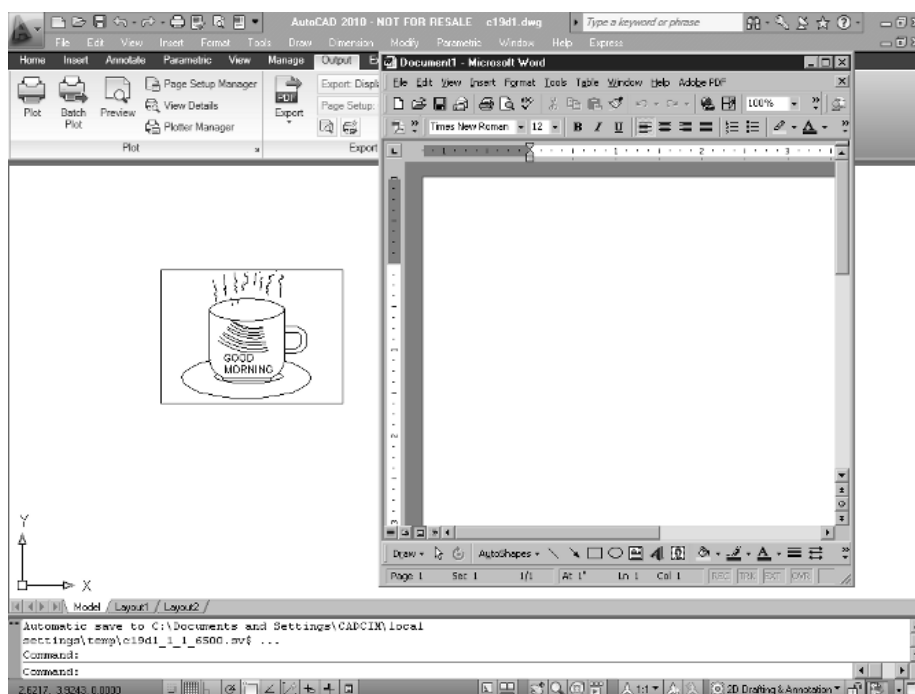

Figure 21-13 AutoCAD graphics screen with the MS Word window
3. It is preferable to arrange both the container and server windows so that both are visible, as shown in Figure 21-13.